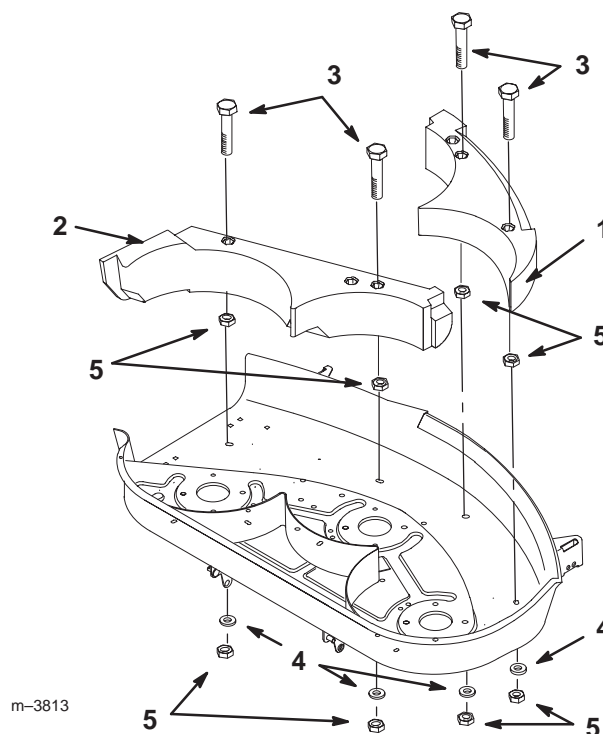

Figure 14
2. Place the left side baffle and the right side baffle inside the cutting chamber so the extended lugs are interlocked. Secure them with 4 locknuts (5/16 in.) and 4 lock washers (Fig. 14).